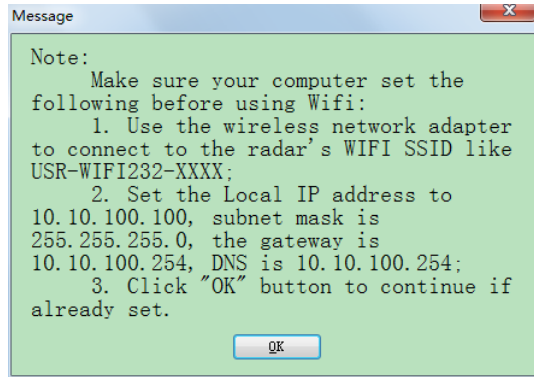

Figure 3.7: Dialog box is displayed to change IP.
(5) The prompt interface will be displayed after clicking WIFI, as shown in figure 3.7